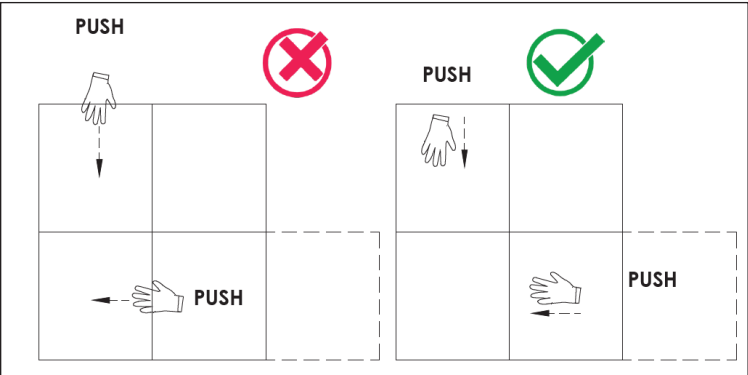

Figure 36: Avoid Pushing on Modules Edges
- 3. Avoid pushing modules on the tiles edges. Refer to **Figure 36**.